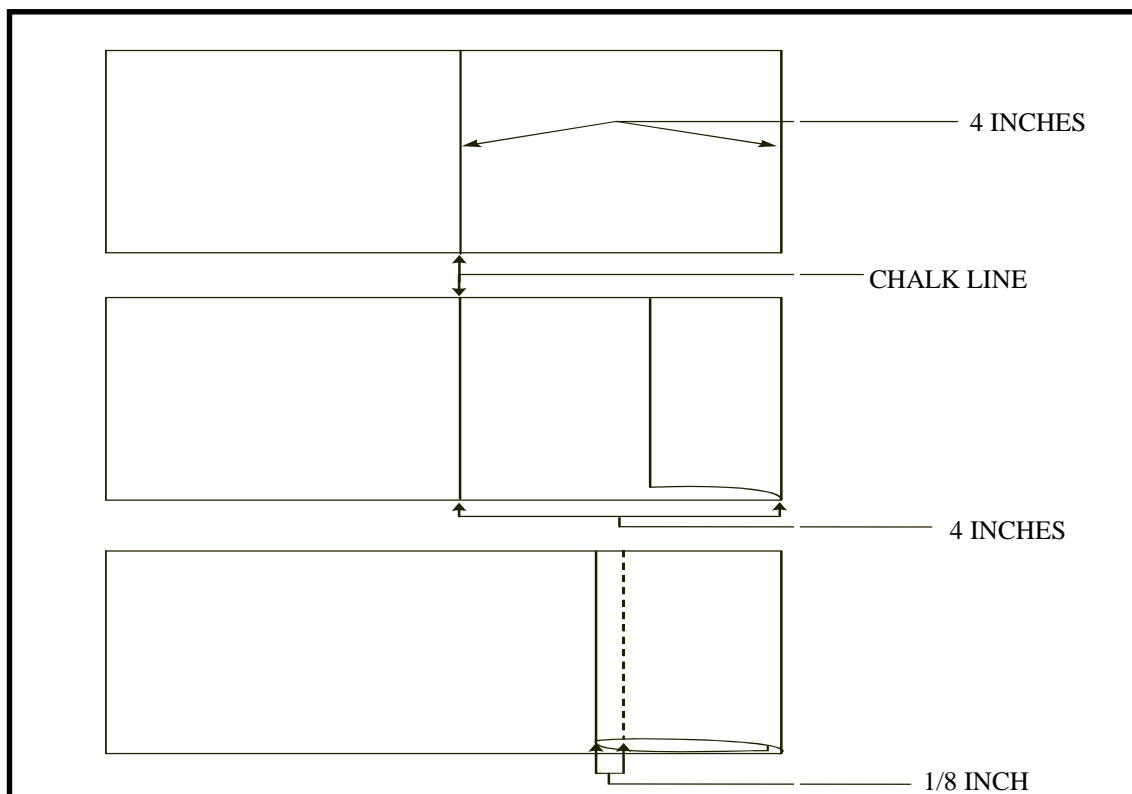

Figure 8-4. Seam type 1--Grommated hem
(2) Grommated Hem. A grommated hem (Figure 8-4) is used to finish an edge where grommets will be installed. Extra fabric is required to give the hem added strength. To sew a grommated hem--